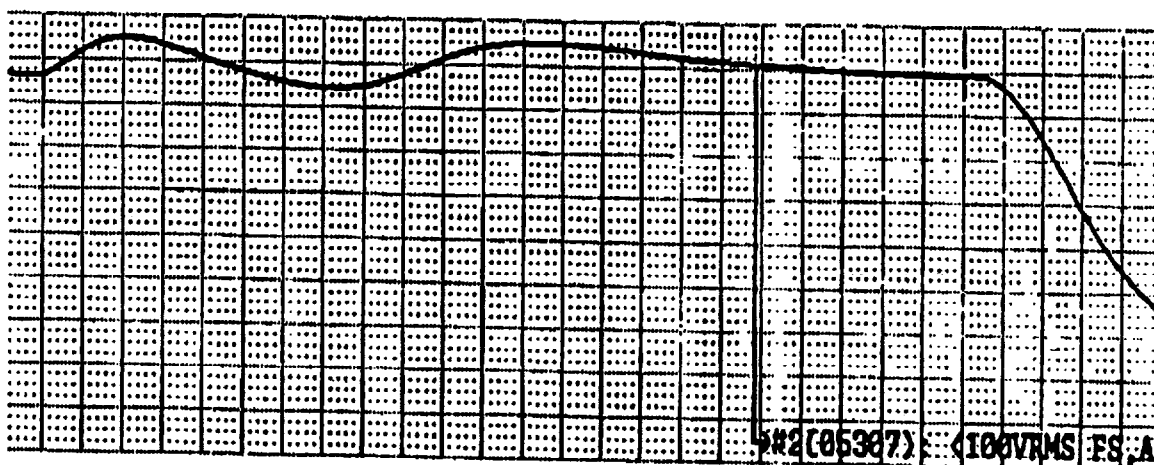

Figure 5-9 Elevation Tachometer Gain Normal
5.14 Elevation Tachometer Gain Low - Figure 5-8 shows the effects of low elevation tachometer gain. Note how fast the antenna returns to the target antenna. Figure 5-9 shows normal tachometer gain,